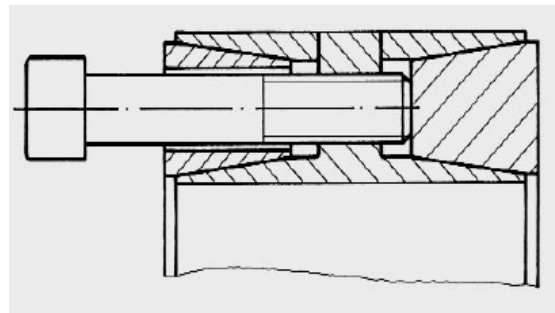

Fig. 3
3. Similarly the rear thrust ring is released as per figure 3.